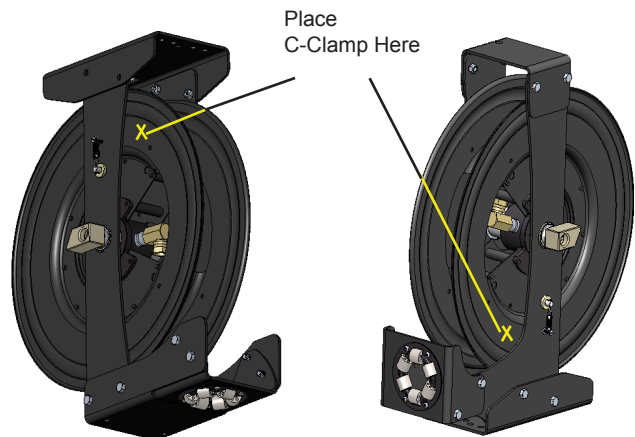

Figure 4
3. Secure spool from accidental rotation by placing a C-Clamp onto the spool. See figure 4 for proper placement of C-Clamp. This will keep the spool from rotating while installing the new service hose.